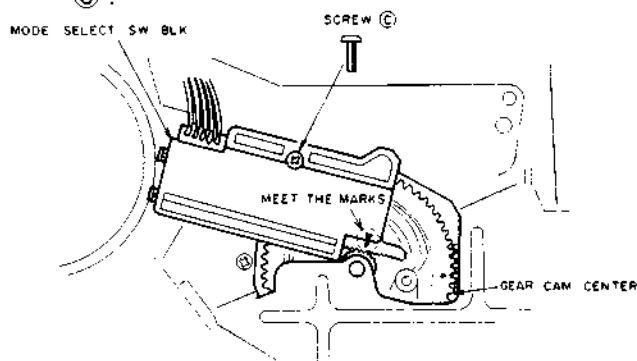

Fig. 4-14
- 10) Coincide the marks of MODE SELECT SW and attach the MODE SELECT SW BLK onto the LOADING MECHA BLK as shown in Fig. 4-14. Tighten the MODE SELECT SW BLK with a screw **(C)**.